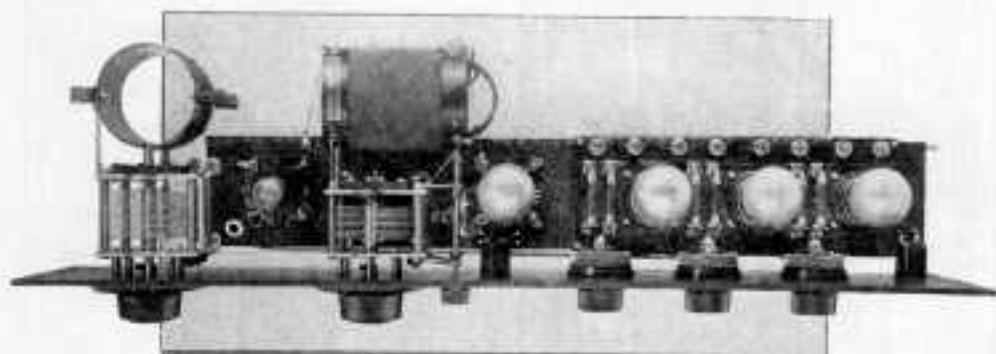

Fig. 5. The same general arrangement used in the type 6600 and 7000 sets is used in this outfit.
Fig. 5. Illustrating the method of installing the A type in a super-heterodyne. No special care for charging is required, as the battery floats on the line when the current is turned on at the electric light socket
25. Put the grid leaks in the clips. The values are shown in the picture wiring diagram. Put the dials on the two variable condensers and then fasten the knobs in place so that the pointer is on the 180 degree marks when the plates of the condensers are totally interleaved. Finally put two coil mounting pillars on the screws under the tube panel, as shown in Fig. 5, so as to support the tube panel. This completes the assembly of the set.